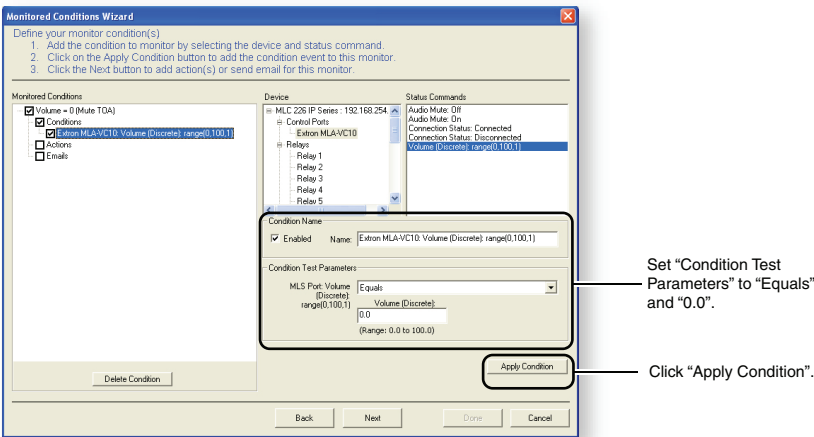

Figure 3-11 — Monitored Conditions Wizard (steps 5-7)
- 5. Select "Volume (Discrete): range (0,100,1)" and choose the options "Equals" and "0.0" (see figure 3-11).